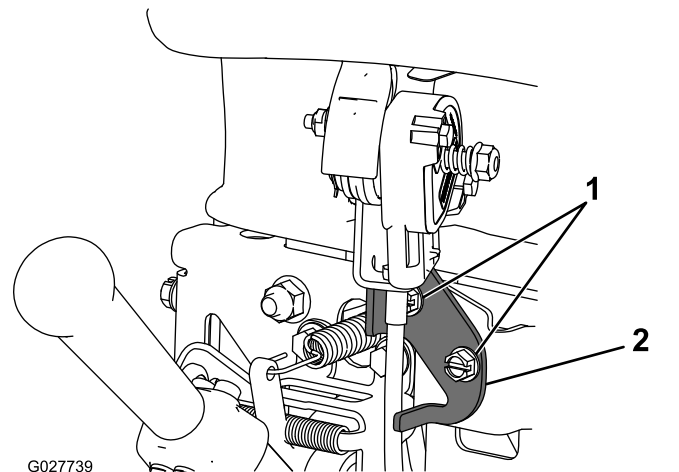

Figure 28
2. Loosen the 2 fasteners securing the throttle control (Figure 28).